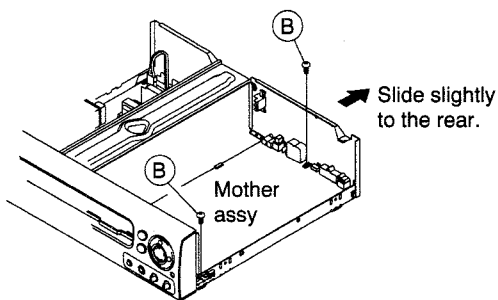

Fig. 3
2. Remove the two screws **B** fastening the MOTHER ASSY (Fig 3).